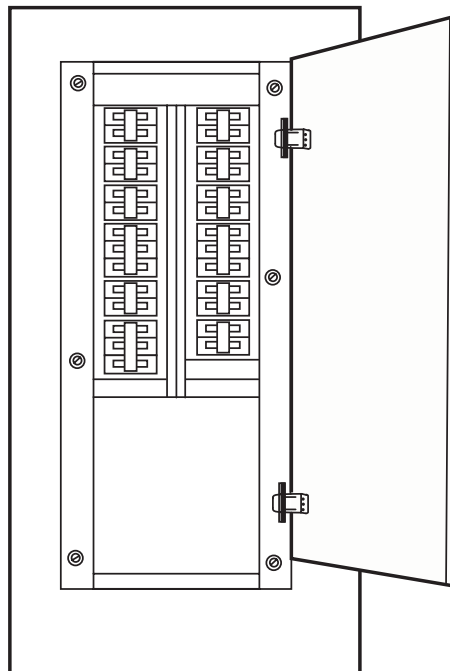

Figure 7. 120V Distribution Panel No. 3
- g. 120V distribution panel No. 3 (figure 7), located in the main deck passageway, starboard side.